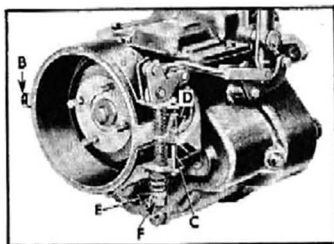

Fig. 37—Propeller Shaft Brake
1. Set hand brake lever in fully released position and, if necessary, adjust pull rod so lower edge of both cams are flat against the band end. Turn up anchor screw "B" (fig. 37) until there is .010"-.015" clearance between lining and drum.